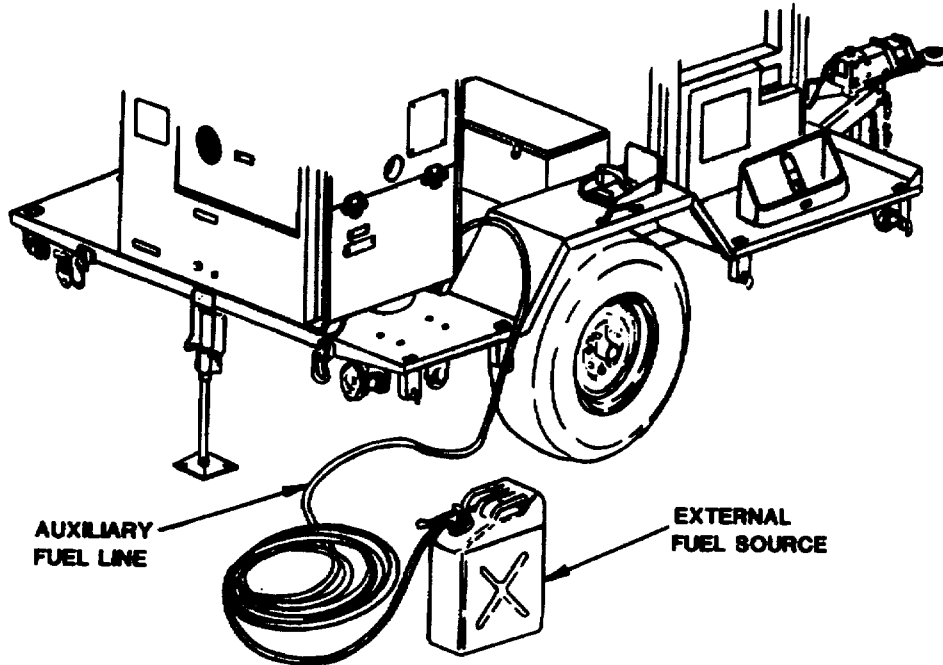

Figure 4-2. External Fuel Line Connection.
c. **External Fuel Line Connection.** (See Figure 4-2). The power plant generator sets can be fueled from an external source such as a 5-gallon fuel can or 55-gallon drum. This eliminates the need for frequent refilling of each generator's fuel tank during long intervals of operation.
- (1) Remove fuel can adapter and fuel pickup tube from storage locations on power plants and assemble by threading pickup tube into adapter.
- (2) Thread one end of auxiliary fuel line onto fuel can adapter fitting and tighten.
- (3) Connect free end of auxiliary fuel line to AUXILIARY FUEL CONNECTION. This connection is located directly to the left of the fuel drain on the left-hand side of generator set.
- (4) Insert fuel can adapter in external fuel source and secure by pressing down on lever.
- (5) Set MASTER SWITCH on control panel to RUN AUX FUEL position.